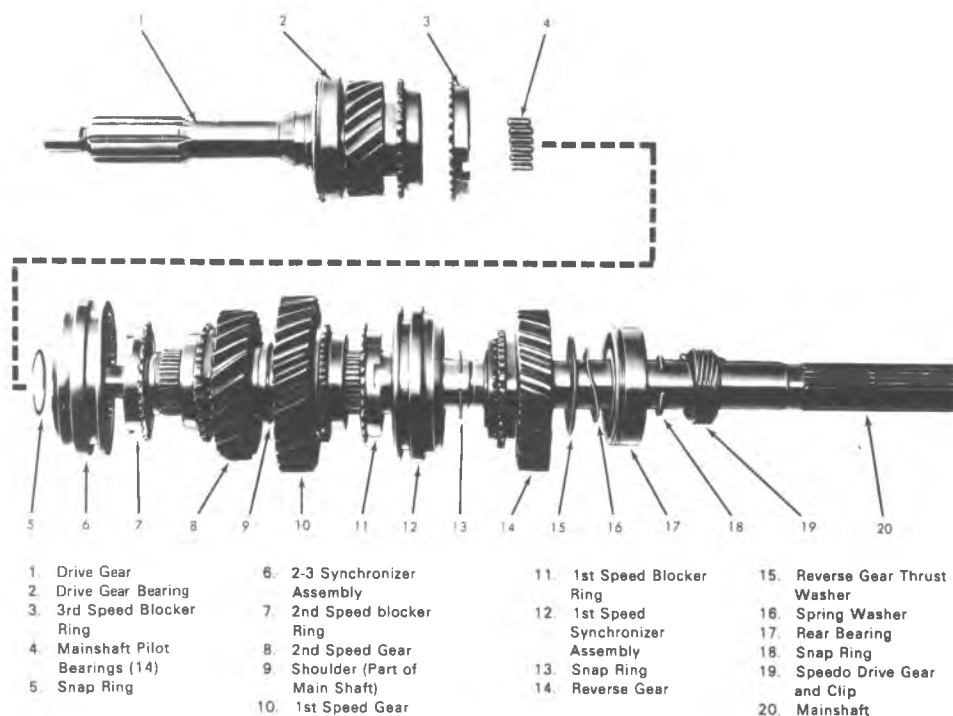

Fig. 7B-15A--Clutch Gear and Mainshaft Assembly
1. Using Tool J-22246 load a row of roller bearings (27) and a bearing thrust washer at each end of the countergear. Use heavy grease to hold them in place (Fig. 7B-16A).
4. Using snap ring pliers, expand the snap ring in the extension and assemble extension over rear of mainshaft and onto rear bearing. Seat snap ring in rear bearing groove (Fig. 7B-4A).
5. Load the mainshaft pilot bearings (14) into the clutch gear cavity and assemble the 3rd speed blocker ring onto the clutch gear clutching surface with its teeth toward the gear.